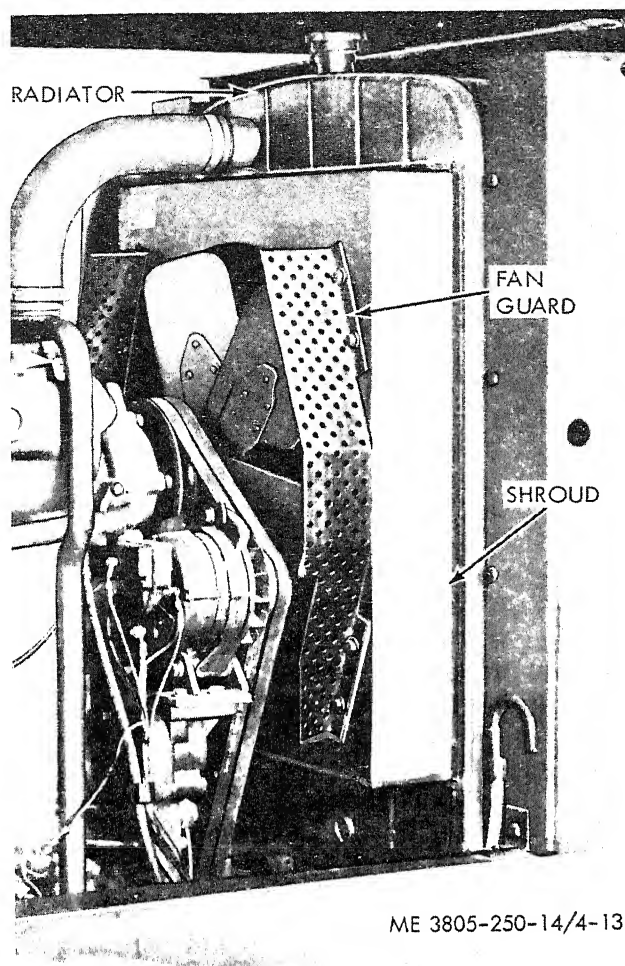

Figure 4-13. Shroud, removal and installation.
*b. Replacement.* Remove the side engine access panel and remove the hood (para 4-51). Remove four bolts and lockwashers securing each side of the shroud (fig. 4-13) to the radiator and remove from the loader. Install the shroud by reversing the removal procedure.